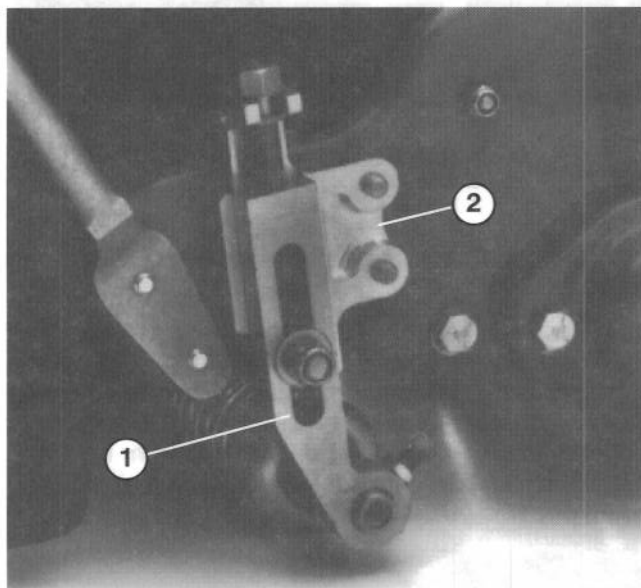

Figure 9
2. Loosen locknuts securing height-of-cut arms to height-of-cut brackets (Fig. 9).